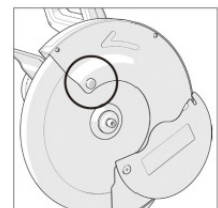

Fig. 2
- Loosen the fastening screws and rotate the shield upward, exposing the mandrel of the machine. (Fig.2)